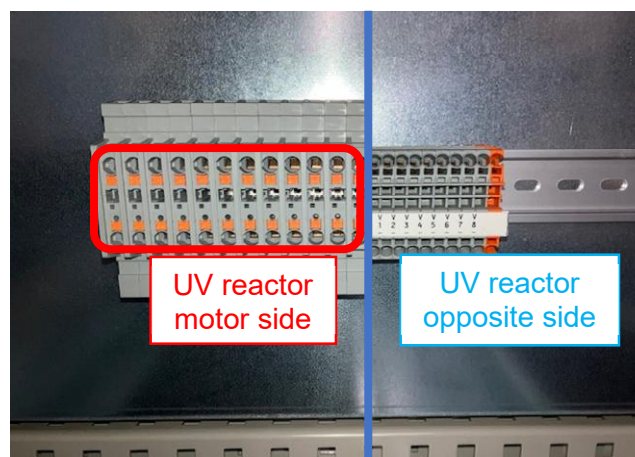

Figure 17 After mounting terminal block for 8 kW power unit
(6) Attachment of terminal block for 8 kW power unit **First time only**
a) Remove the terminal block in the modification kit from the DIN rail and attach it to the red-framed area shown in Figure 17. The modification kit includes a 12-pin terminal block, but only use the number of pins required. For example, if the ballast water management system is designed for eight UV lamps, use eight pins of the terminal block in the modification kit and leave the remaining four pins unused.